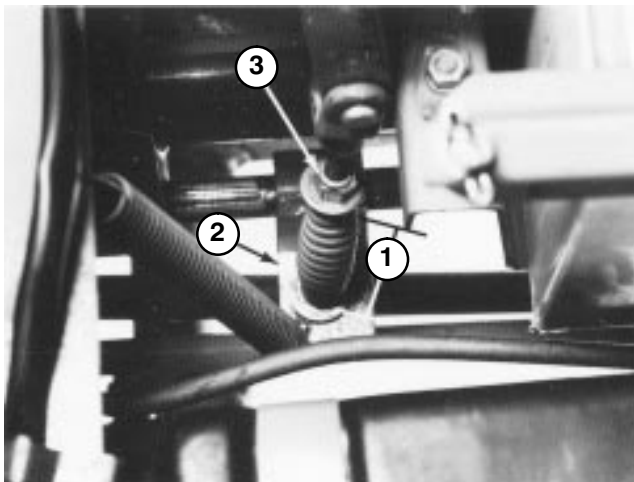

Figure 58
3. Measure length of PTO spring between flat-washers (Fig. 58). There should be a spring length of 3-3/16 inches (81 mm).
4. To adjust, hold head of adjusting screw with wrench (under PTO actuating arm) and turn locknut (Fig. 58).